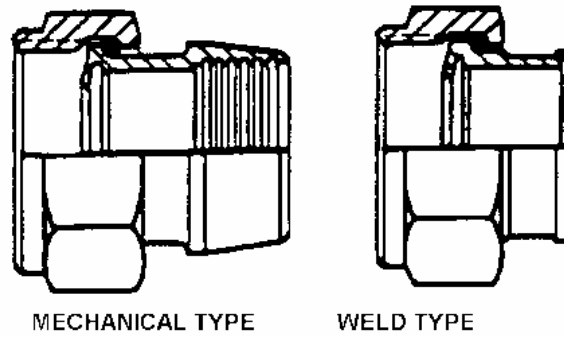

Figure 1. Typical Welded and Mechanically Attached Dynatube Fittings
2. This section provides descriptions and maintenance instructions for Dynatube fittings used on some Naval aircraft and Resistoflex hand tools used to install these fittings. Dynatube fittings can also be connected to rigid tubing by welding, but internal mechanical swaging with Resistoflex hand tools is the authorized method for Navy personnel. Welded and mechanically attached Dynatube fittings are shown in Figure 1.